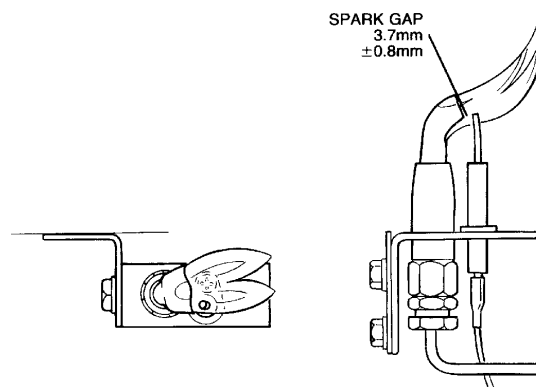

FIG. 30 PILOT BURNER SPARK GAP TOLERANCES
The pilot is pre-set and no adjustment is required. The pilot flame envelope should cover the electrode tip see FIG. 30. If the pilot flame is not as illustrated, remove and clean the pilot as described in the Servicing Instructions Section 3, PILOT BURNER, Page 22.
- H. Ensure that the spark gap is as illustrated in FIG. 30.
6. Replacement is the reverse of removal. On re-assembly ensure that the spark gap is as illustrated in FIG. 30.